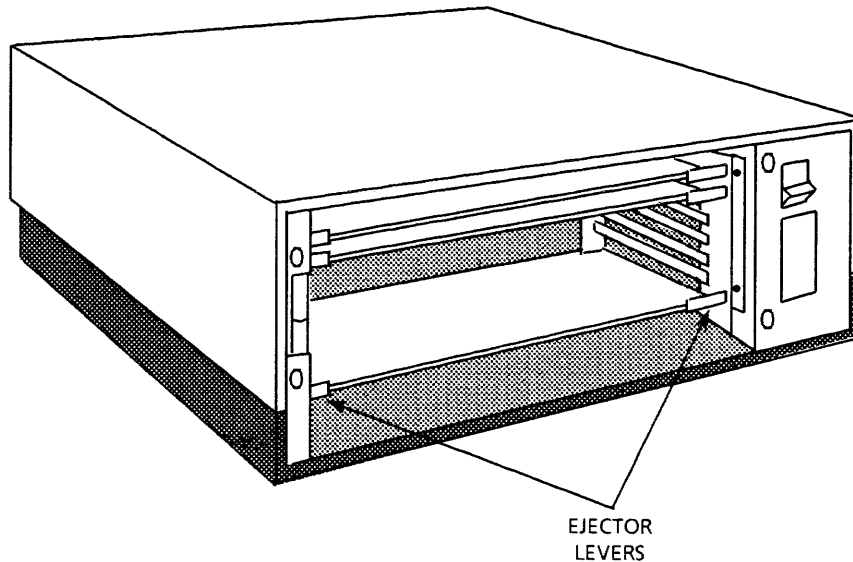

Figure 4-5. Reseating the Circuit Boards
5. For each board in the cardcage, use the white ejector levers (shown in Figure 4-5) to pop the board loose. (You may have to disconnect cables from some boards.)